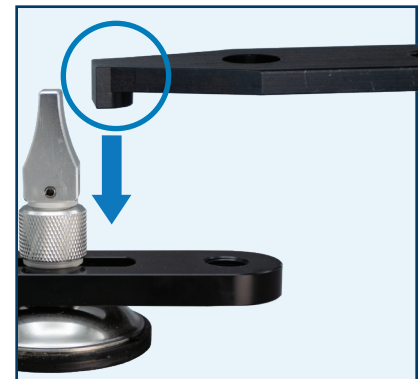

Figure 2
4. Position the adapter arm on the support arm (Figure 2).
**NOTE:** When correctly positioned, the adapter arm's anchor (circled in Figure 2) should be flush with the inside wall of the support arm's oval center hole, and the holes for the arm screw should align.